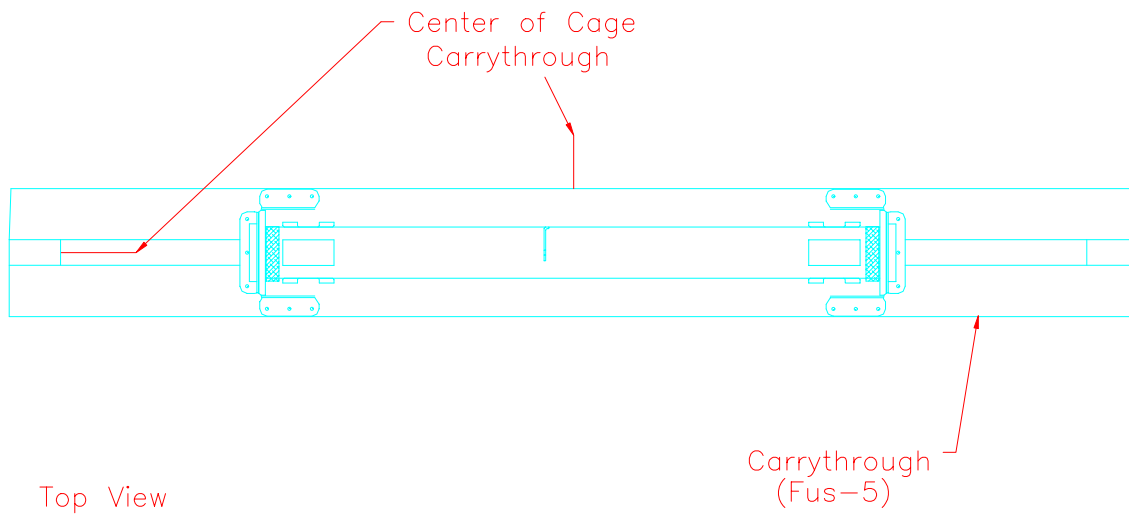

Figure 15.5.1
- 1) Center assembly on the Carrythroughs (FUS-5). Figure 15.5.1.